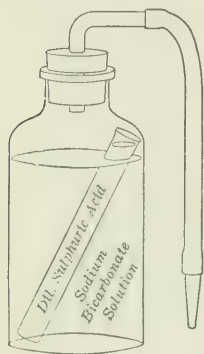

Fig. 33. Simple form of chemical fire extinguisher.
**Optional work.** The construction and operation of one form of fire extinguisher may be shown by the apparatus in figure 33. The bottle is nearly filled with a saturated solution of sodium bicarbonate (baking soda), and the small test tube with very